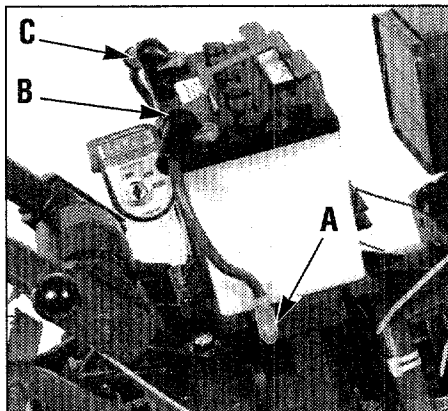

Figure 5-42
1. Disconnect the negative (-) cable from the grounding screw on the right side of the battery bracket (A, Figure 5-42) and bend the cable away from all metal parts.
2. Disconnect negative cable from negative (-) battery post (B, Figure 5-42), and remove cable.
3. Disconnect positive (+) cable from positive battery post (C, Figure 5-42) and bend it safely away from metal parts. Cover cable terminal with rubber boot.